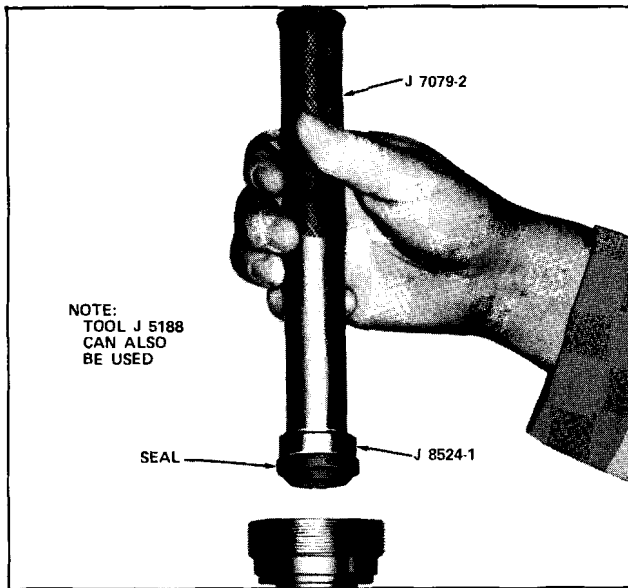

Fig. 9-90 Installing Adjuster Plug Seal
2. Temporarily install the adjuster plug in the gear housing and place dust seal and a new oil seal on tool J 8524-1 (lip of seal away from tool). Lubricate seal with power steering fluid and drive or press seals into adjuster plug until seated (Fig. 9-90).